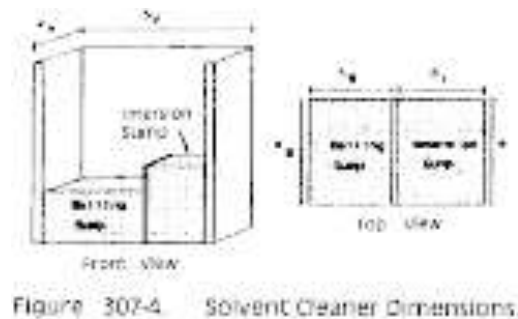

Figure 307-4. Solvent Cleaner Dimensions.
3.6 Determination of Solvent Vapor/Air Interface Area for Each Sump. Determine the area of the solvent/air interface of the individual sumps. Whenever possible, physically measure these dimensions, rather than using factory specifications. A schematic of the dimensions of a solvent cleaning machine is provided in figure 307-4.